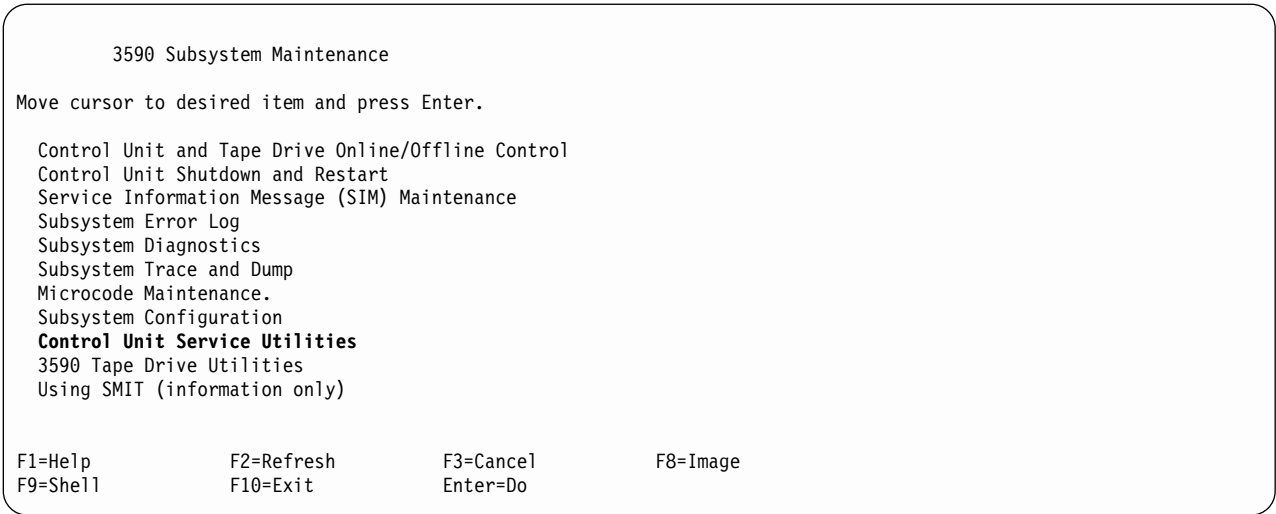

Figure 11-49. Model A00/A50 Maintenance Screen
- \_\_\_ Step 1. Bring up EBTERM/NetTerm go to "Installing EBTERM or Terminal Emulator in a 3494 Library Manager" on page 11-16. Go to the 3590 Maintenance screen (see Figure 11-49 on page 11-74).